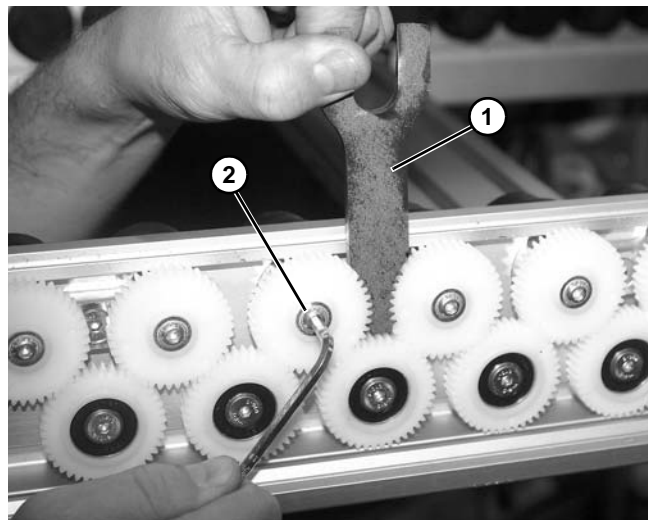

Figure 35
2. Install sprocket removal tool, part number 400289 (**Figure 35, item 1**) between gears.
3. Remove screw (**Figure 35, item 2**) holding gear onto roller shaft.